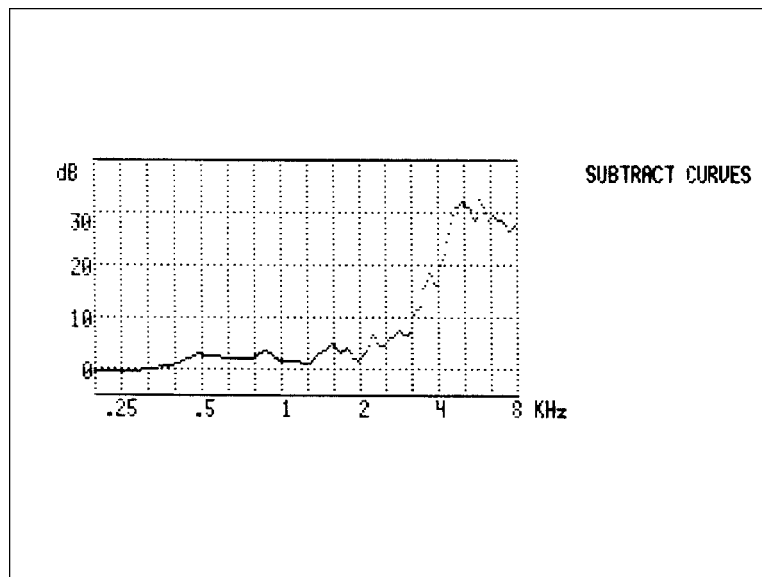

Figure 10.5.2D — Example spectrum of “SSS” sound through test mic Only
2. Holding the analyzer microphone at the same position used for calibration, and utter the sound “sss” for a few seconds, until a consistent curve is visible on the graph. You should get a spectrum like the one in Figure 10.5.2D.